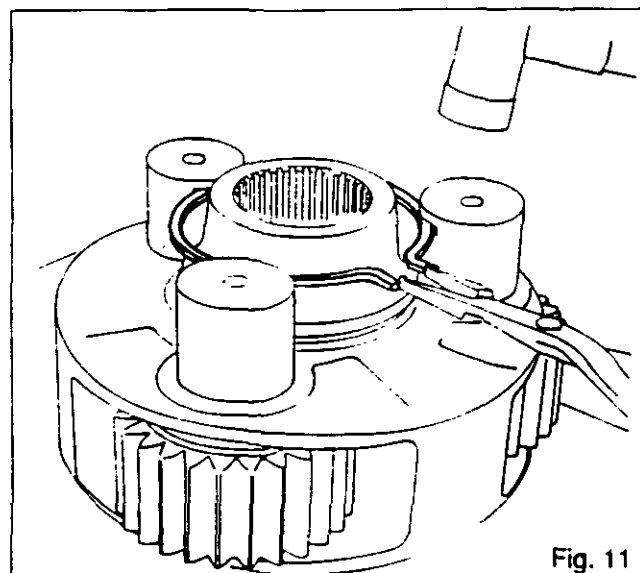

Fig. 11
18. Tap lightly on the three pins to insert the circlip (11) into the groove in the planetary carrier (Fig.11).
19. Check that the spur washer (9) is fitted.